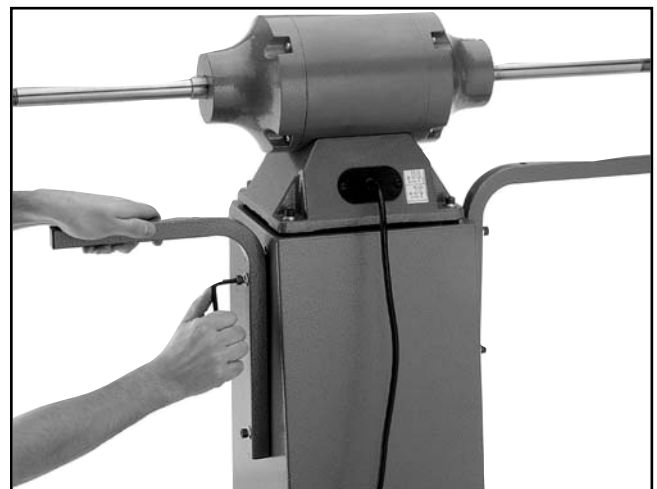

Figure 8. Attaching dust hood brackets to stand (back-side view).
Attach the dust hood brackets to the stand with (4) M8-1.25 x 40 cap screws, (4) M8 flat washers and (4) M8 lock washers (**Figure 8**).